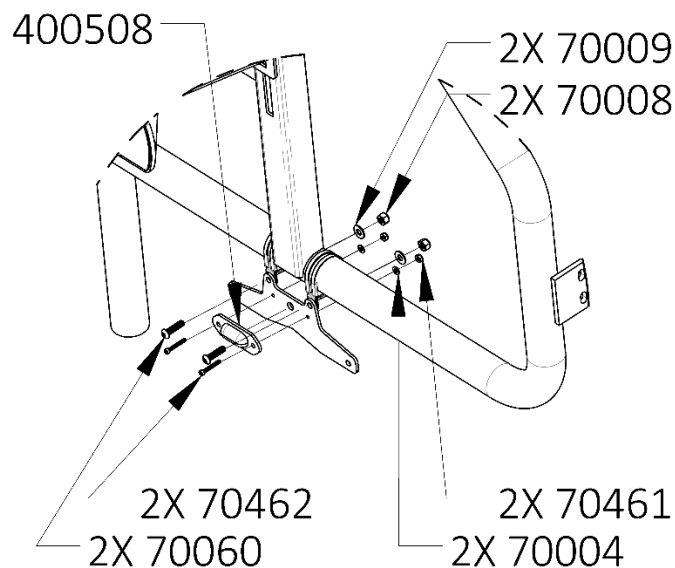

Figure 22: License Plate Install
35. Install the License plate holder onto the lower pipe as seen in Figure 22.